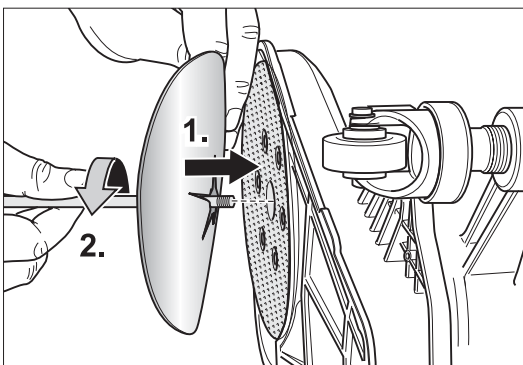

Fig. 12 ... mount a new disc and assemble again.
- 6 Put on a new sanding disc and insert the fixing screw in the sanding plate together with the paper faceplate (Fig. 12).
- 7 Turn the fixing screw in the sanding plate using the universal spanner (Fig. 12); make sure the sanding disc is fastened in centered position on the sanding plate.